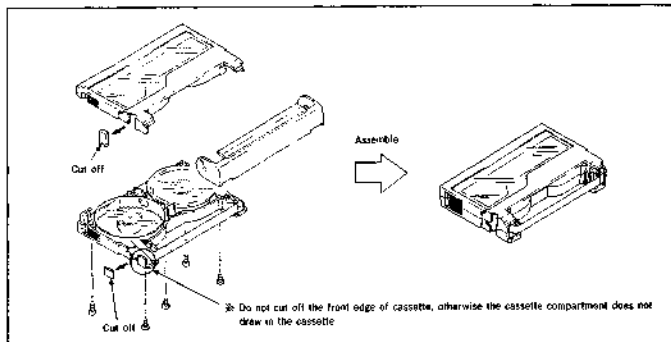

Fig. 35
**Note:** This adjustment requires the No. 7 guide adjusting cassette (Fig. 35).
- 2) Confirm that the tape is not bent between the No.6 guide (TG6) ① and the capstan ②. If it is, turn the high adjusting screw ④ of the No.7 guide (TG7) ③ until the tape is straightened.
- 3) Set the playback mode again and confirm that the tape is not bent between the capstan ② and the No.7 guide (TG7) ③ (specification : 0.5mm or less). If the tape is bent beyond the specification, turn the high adjusting screw ④ until bending is within the specification (0.5mm).
- If in the REV mode tape bending between the No. 6 guide (TG6) ① and the capstan ② is 0.3mm or less, adjustment can be considered completed.